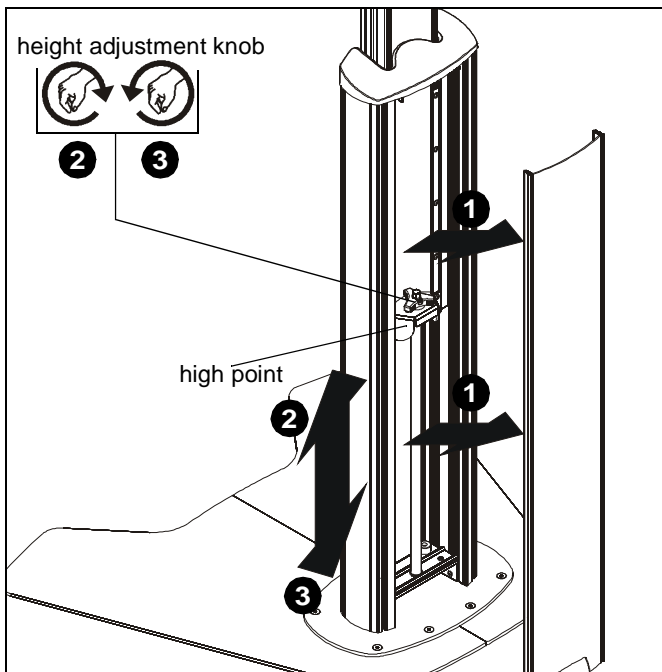

Figure 13
1. Remove cable cover (G) to expose height adjustment knob.
2. Turn height adjustment knob clockwise to raise display. (See Figure 13)
WARNING: Do not attempt to raise or lower the adjustment carriage beyond its upper or lower limit. High and low points are shown in Figures 13 and 14.